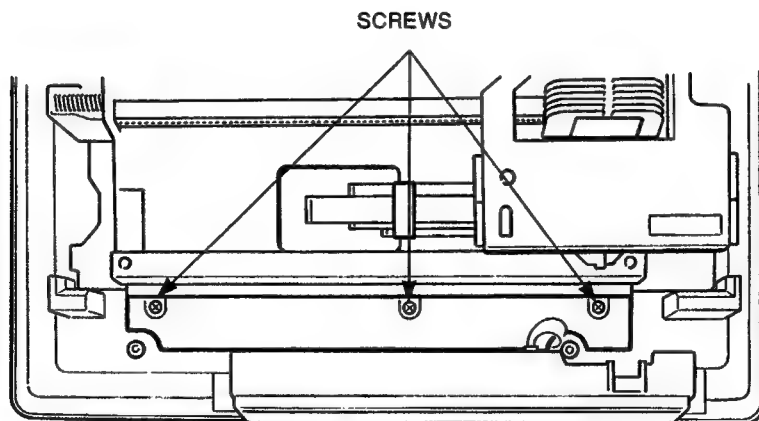

Figure 3-40 Cable Cover
5. Remove the cable cover by removing the three screws securing it to the shield cover (see Figure 3-40).